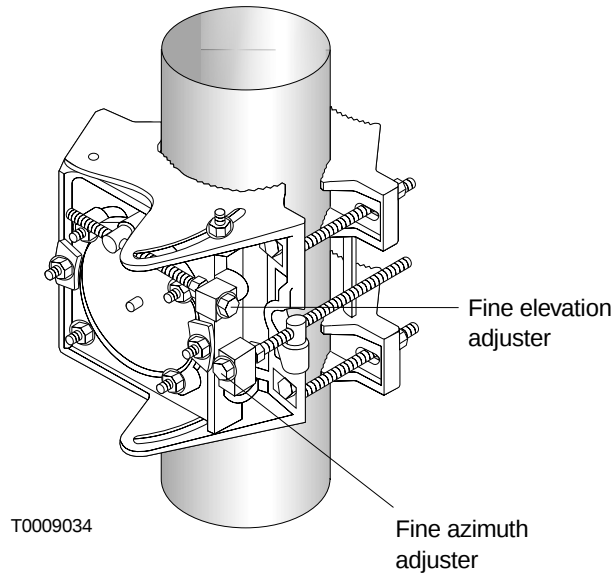

Figure 4-18 Fine azimuth adjuster and fine elevation adjuster
At this point, the mount is tightened to the mast and the antenna is tightened to the mount. If necessary, you can fine-adjust the azimuth and elevation using the built-in adjusters shown in figure 4-18.
2. *If azimuth adjustment is necessary*, use a wrench to slowly rotate the fine azimuth adjuster (shown in figure 4-18) until the azimuth is set correctly.
2. *If elevation adjustment is necessary*, use a wrench to slowly rotate the fine elevation adjuster (shown in figure 4-18) until the elevation is set correctly.